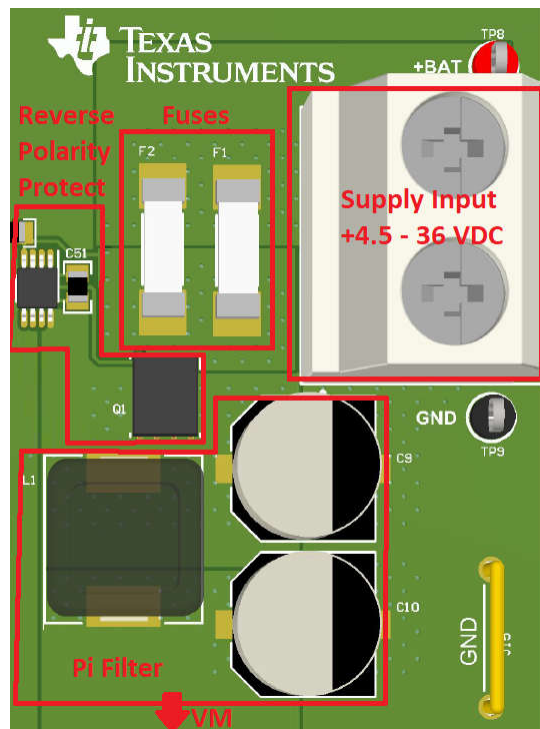

Figure 2-4. Main Supply Section
Figure 2-4 illustrates the portions of the EVM associated with the main supply input powering the DRV824x-Q1 or DRV814x-Q1 device, and the associated loads. Starting from the upper-left, and working clockwise around the image:
3. With the +BAT external supply outputs disabled, connect +BAT supply to the screw terminals on the EVM (J14), observing polarity (Figure 2-4).